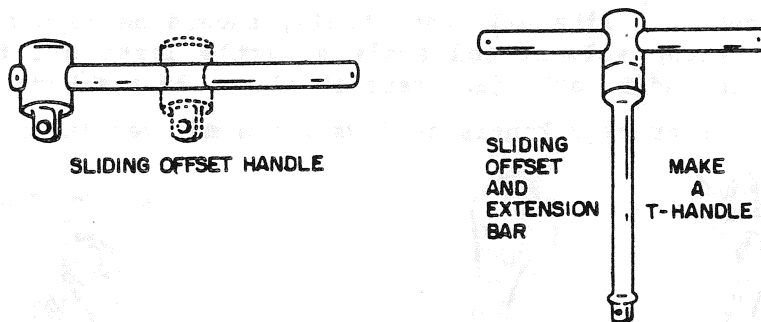

Figure 10.32. Sliding Offset Handle
1. The head can be positioned at the end or at the center of the handle. The sliding offset and an extension bar can be made up as a "T" handle. (Figure 10.32)